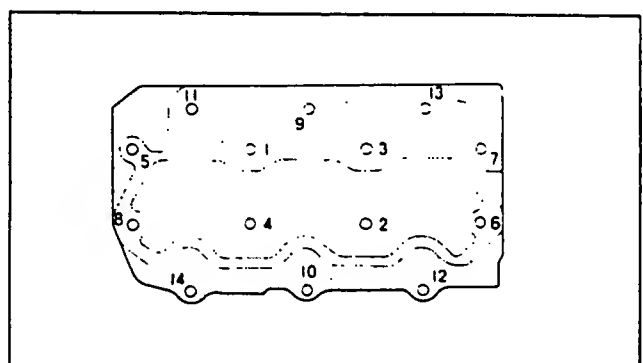

Figure 16. Cylinder Head Tightening Sequence
3. Tighten the cylinder head bolts in three (3) phases and in the sequence shown in Figure 16. Alignment pins are provided for proper positioning. Coat all bolt threads with molybdenum disulphide grease.